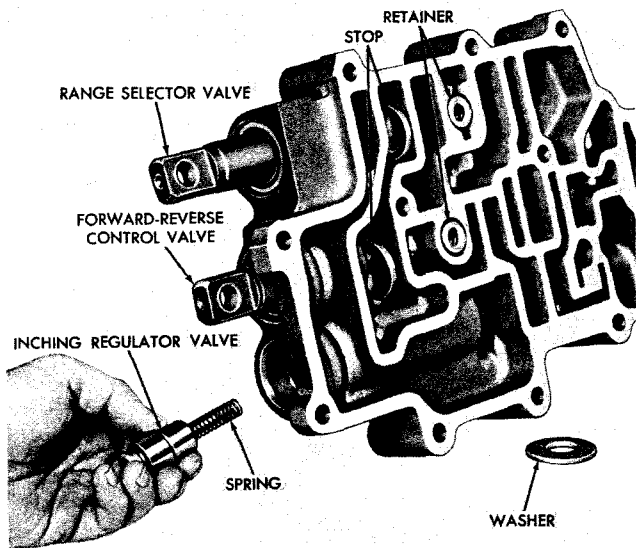

Fig. 6-6. Removing (or installing) inching regulator valve and spring—later model
(7) Remove the range selector valve and the forward-reverse control valve (fig. 6-6). The valves may be removed by inserting a pin or rod through the linkage pinhole in the stem of each valve. Pull the valves out of their bores, using a small screwdriver or other tool to spread the inner lips of the oil seals when the valve shoulders tend to hang on them.
(8) Remove the remaining detent ball and spring from each valve bore.
(9) Remove the valve stem oil seals (fig. 6-6).
(10) Remove two plugs 23 (B, foldout 15).
(11) Remove bushings 8 and 35 from valves 9 and 34 if parts replacements are necessary.
c. Assembly (item 6, B, foldout 15)
(1) If bushings 8 and 35 were removed from valves 9 and 34, install new bushings. Press the bushings into the valve stems until they are flush with, or below, the surface of the stems.
(2) Install two plugs 23 into control valve body 24.
(3) Position the valve body, mounting side upward, and install spring 29 and detent ball 28. The hole into which these parts install intersects the range selector valve bore.
(4) Insert a small punch or pin to depress the ball and spring. Install range selector valve assembly 32, removing the holding tool when the end of the valve catches the detent ball. Push valve to a detent position.
(5) Install remaining detent ball 28 and spring 29. Install retainer 27, pressing it to flush with, or 0.020 inch (0.508 mm) below the mounting surface of the valve body.
(6) Install spring 26, detent ball 25, forward-reverse control valve assembly 7, remaining spring 26, remaining detent ball 25, and remaining retainer 27. Use the same procedures outlined in (3) through (5), above.
(7) Install the valve stops on the range selector and forward-reverse control valves (fig. 6-6).
(8) Install seal 31 (B, foldout 15), with spring-loaded side inward, onto the range selector valve stem.
(9) Install seal 10 onto the stem of the forward-reverse control valve and press it into the valve body as outlined in (8), above. Seal 10 is identical to seal 31 and installation is identical.
(10) Install the inching regulator valve spring and valve (fig. 6-6).